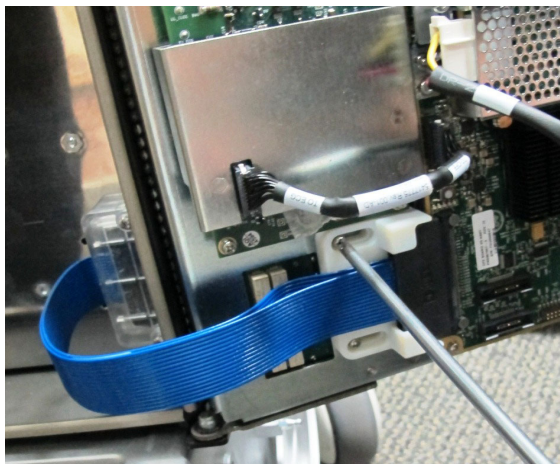

Figure 8-137 Releasing the Retaining Bracket on the CFE
- Loosen the two screws securing the white cable holder bracket (plastic guide) - Figure 8-137.